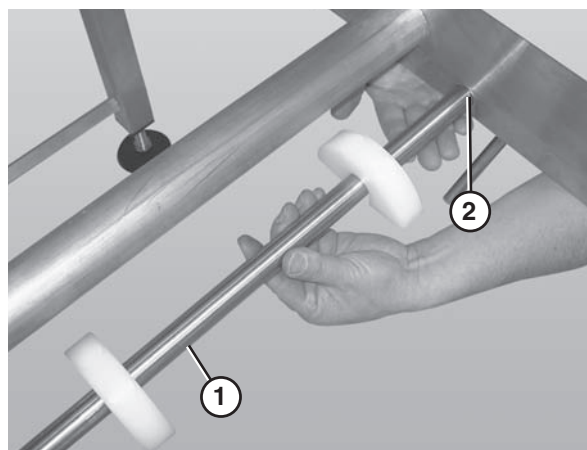

Figure 43
2. Slide the return shaft up (Figure 43, item 1) and through the large slot (Figure 43, item 2) in the frame (picture shown without the belt or wear strips).
3. Push up on the return shaft (Figure 43, item 1) and slide the notched end of the shaft through the small slot on the opposite side of the frame.